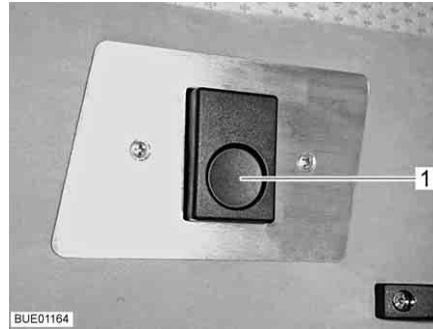

Fig. 102 Lock
- Push the release knob (Fig. 102,1). The lock is released.